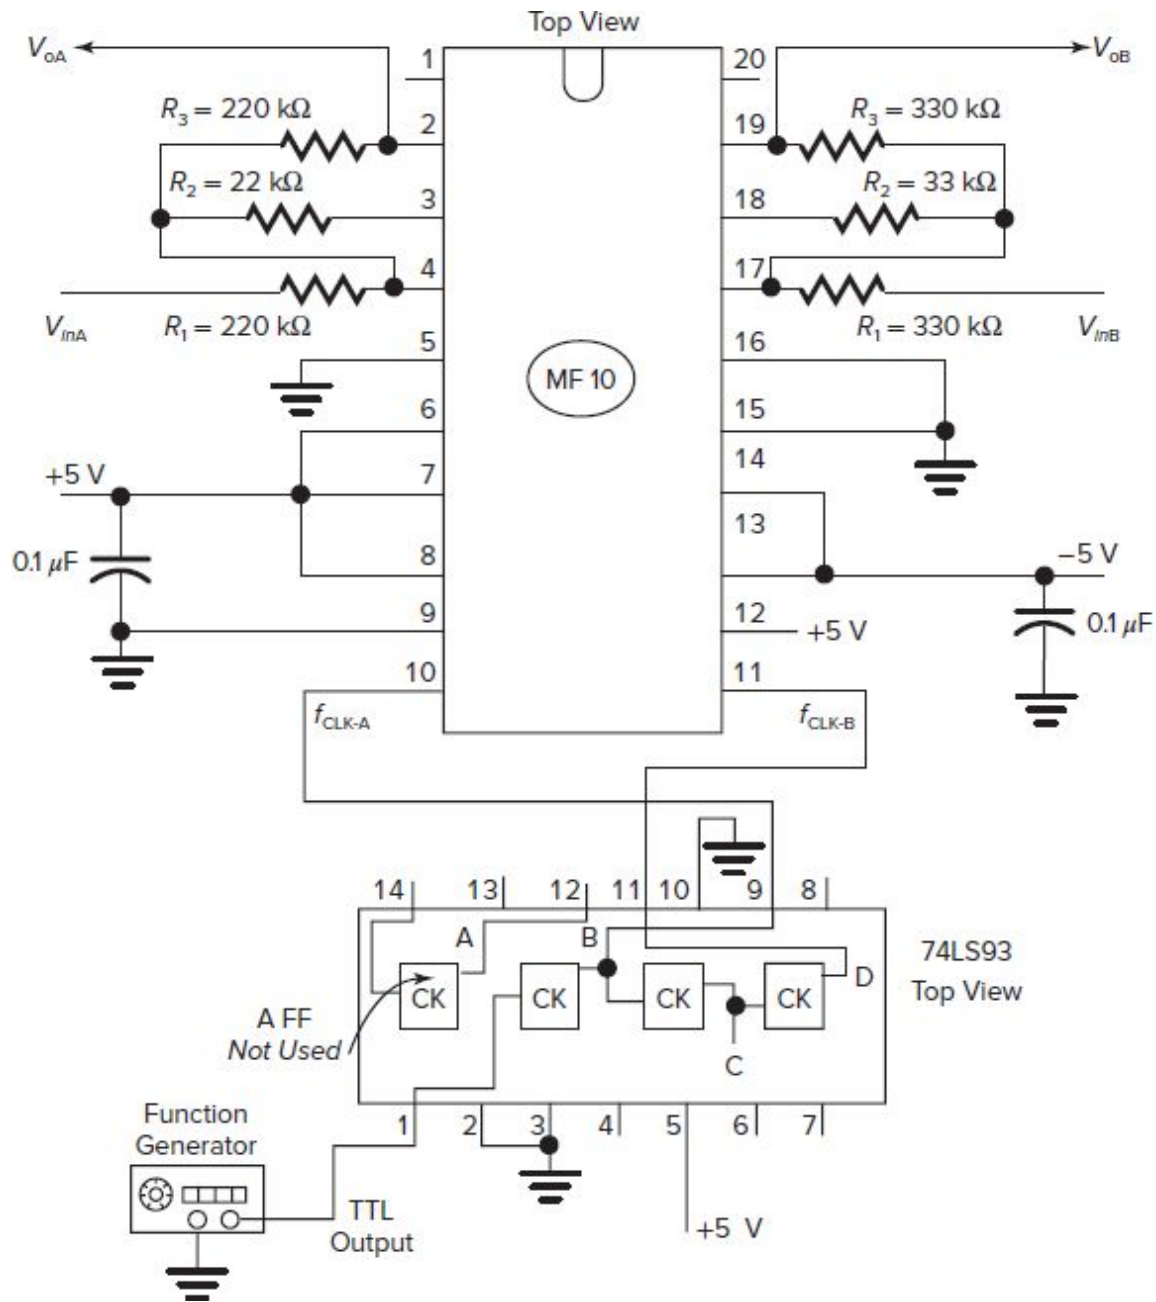

Fig. 2-3 MF10 SCF BPF wiring.
1. Construct the MF10 filter circuit shown in Fig. 2-3. Remember that there are two filters in the IC and you will test both of them. The input to the first filter is labeled V_{inA} at the 220-k Ω resistor R_1 . The output of the first filter is at pin 2 and is labeled V_{oA} . The input to the second filter is labeled V_{inB} at the 330-k Ω resistor. The output of the second filter is at pin 19 and is labeled V_{oB} . The gain of the filter is the ratio of $-R_3/R_1$. The Q of the filter is the ratio of R_3/R_2 .